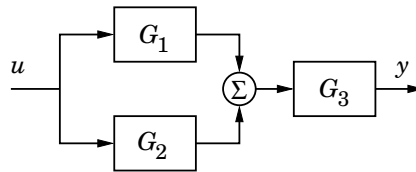

Figure 7.1 A system with parallel and series parts.
- Calculate the transfer function from u to y in Figure 7.1.